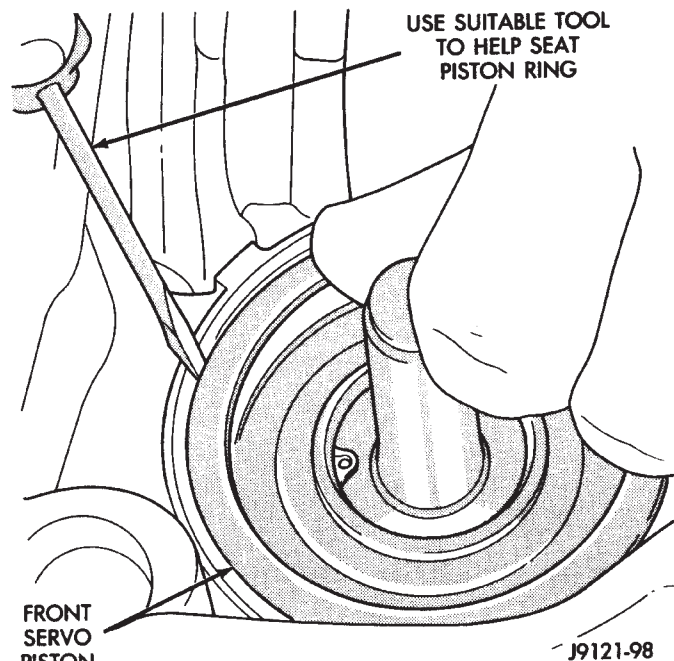

Fig. 124 Front Servo Piston
(5) Lubricate front servo piston components and servo bore in case with transmission fluid.
(6) Install front servo piston in bore. Carefully "run" small, suitable tool around piston ring to press it back into groove and ease installation (Fig. 124). Rotate piston into bore at same time. Rock piston slightly to ease piston ring past snap ring groove and into bore.